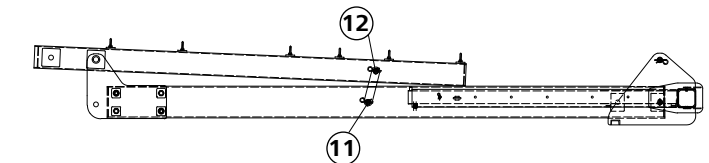

Fig. 3 As-received condition
(B), (C), (D), (E) or (F) Selection of the attachment point according to the centre of gravity of the overall system (Fig. 3)
- ① Boom
② Safety bolt
③ Inspection plaque (on the rear)
④ Data plate (on the rear)
⑤ Post
⑥ Hexagonal-socket cap screw
⑦ Stop
⑧ Fork extension
⑨ Fork
⑩ Bolt with cotter pin